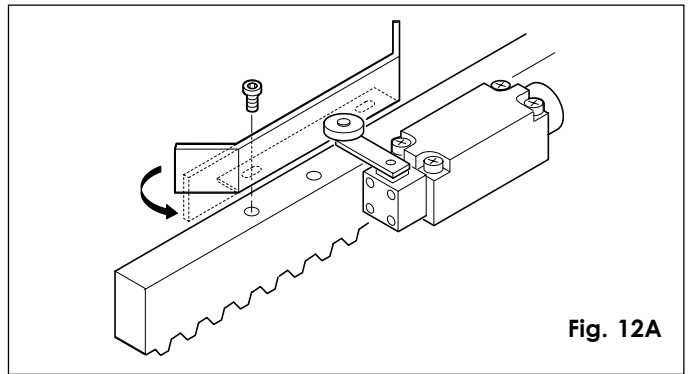

Fig. 12A
The operator is equipped with a mechanical travel stop with roller and trigger. The movement of the gate is stopped when a bent travel stop plate fixed to the top of the rack operates the trigger, tripping the microswitch (fig. 12A).
**Note:** the travel stop plates may be fastened by means of screws, if desired (fig. 12A).
- The limit switch must be tripped by the initial bent part of the travel stop plate, as shown in fig. 12A.
- It is advisable to straighten the final bent part of the travel stop plate, as shown in fig. 12A, in order to prevent the plate from passing the limit switch.